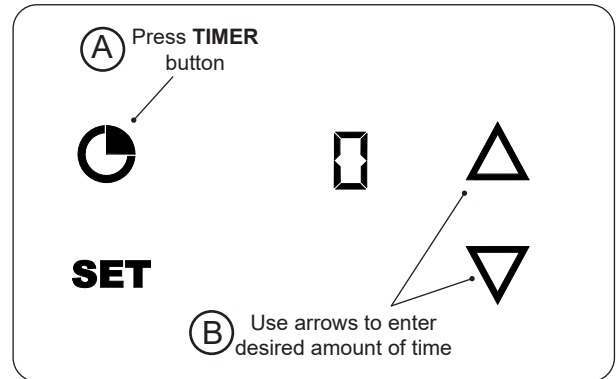

Fig. 41-1 Set timer
1. With the thermometer/thermostat **on**, press the **TIMER** button once (Fig. 41-1, A). A zero will display indicating that no timer is set.
2. Press the **UP** or **DOWN** arrows to enter the desired amount of time (Fig. 41-1, B).